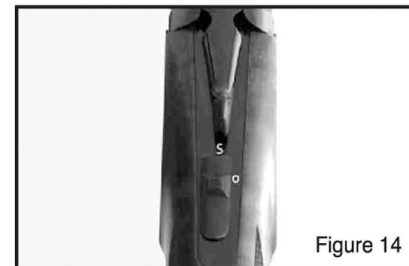
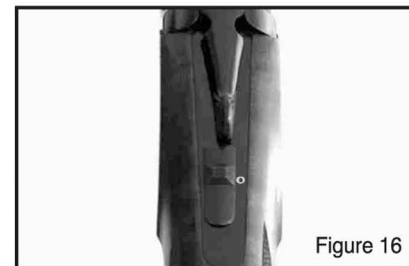
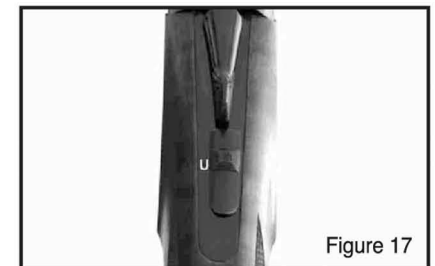

Figure 14
Figure 16
Figure 17
- Make sure the safety is in the “SAFE” position (Figure 14&15).
- Move safety fully forward to the “FIRE” position. Your shotgun has a selector safety system. The top barrel fires first when you move the safety left forward (Figure 16); and when you slide it right forward, the bottom barrel fires first (Figure 17). Your gun is on the safe mode when you pull the safety backwards on either side (Figure 14&15).